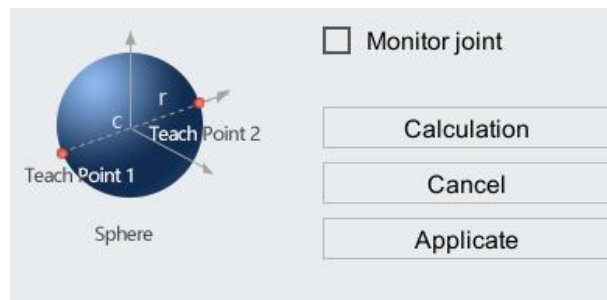

Figure 6-58 Contents of model of ball working zone
If you want to uniquely determine the working zone of the ball, you need to calculate the teach points 1, 2 on the ball. As shown in Figure 6-58, the distance between the two points is the diameter of ball (2r), and the center point between the two points is the center of ball (c). The working zone of the ball can be also determined through teaching method and manual input method.
- Step3. After the teaching of "Point 1" and "Point 2", click <Calculate> button shown in Figure 6-58 to automatically calculate the center of ball and the radius of ball. Click <Applicate> button to complete the zone setting.